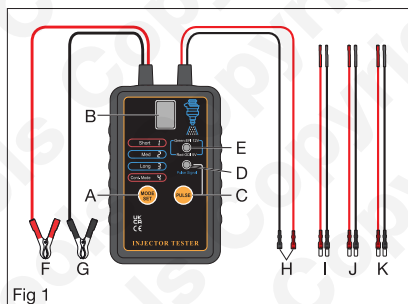

Fig 1
- Refer to Figures 1 and 2: connect the positive battery clip (F) and negative battery clip (G) to a 12V vehicle battery or 12V power source.
- Choose the appropriately-sized injector connector leads (I, J or K) and connect up to the output signal terminals of the unit (H). Then connect the leads to the injector terminals. Be aware of correct polarity when connecting the leads.
- Press and hold the mode set & EFI / GDI selector switch (A) to choose the output voltage (12V -EFI or 5V -GDI). GREEN LED (E) will illuminate for 12V -EFI; RED LED (E) will illuminate for 5V -Gdi.
- Again press the mode set & EFI / GDI selector switch (A) to choose the desired pulse mode - the indicator screen (B) will display the pulse mode selected: